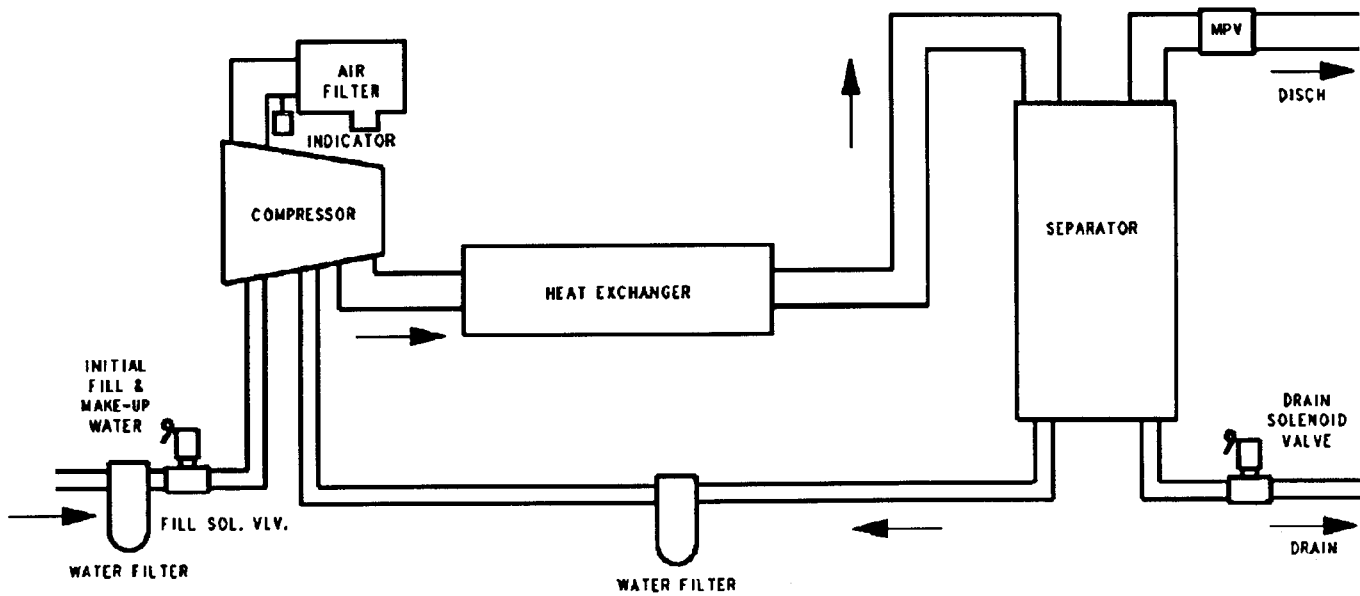

FIGURE 1-2 - AIR/WATER SYSTEM
**AIR FLOW IN THE COMPRESSOR SYSTEM** (Figure 1-2) - Air enters the air filter and passes through the inlet unloader valve to the compressor. After compression the entire air/water mixture flows to the heat exchanger and then into the separator tank where the water is removed by velocity change and impingement. Finally the air passes through the minimum pressure/check valve and to the plant air system.
**WATER SYSTEM** (Figure 1-2) - Water is forced by air pressure from the separator tank through the water filter into the compression chamber injection ports. The water removes the heat of compression and seals internal clearances. Seals minimize water leakage out of the compression chamber.